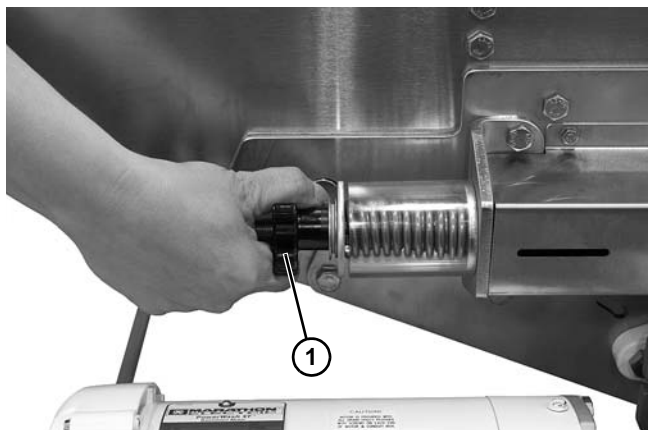

Figure 111
2. Rotate tension nut (Figure 111, item 1) on each side of the center drive counterclockwise to remove all tension on the belt.